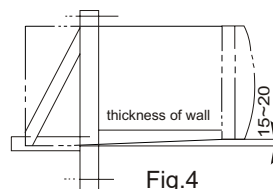
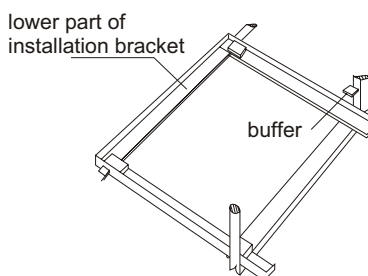

Fig.4
Fig.6
- The metallic installation bracket should be constructed as fig.4.
- Put the buffers on the installation bracket as shown in Fig.6. Adjust the appliance as shown in Fig.4. The leveling pads are employed to tilt the appliance in order that the indoor side is about (15~20) mm higher than the outdoor side for fear the condensate overflow into the room.